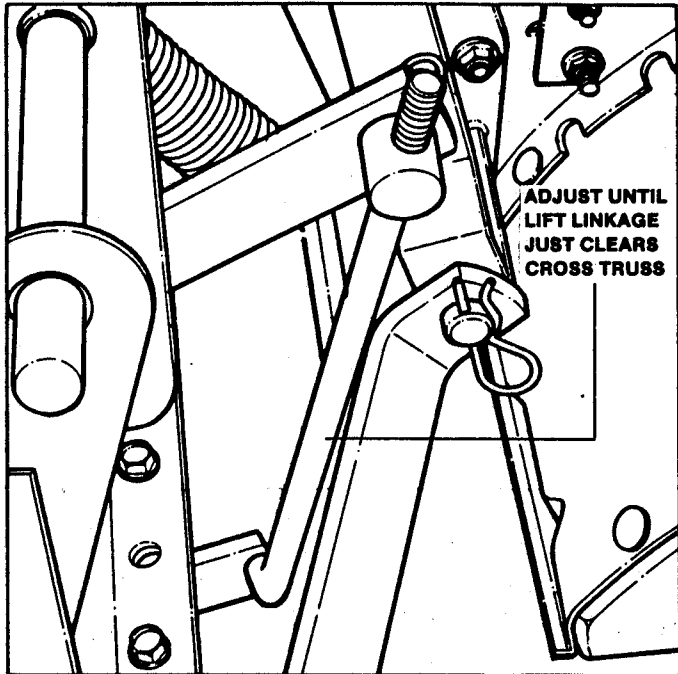

FIGURE 10
1. First, adjust the lift linkage, raise tiller all the way up and hook safety strap to fender. Adjust the lift linkage until it just clears the three point hitch truss. See Figure 10.